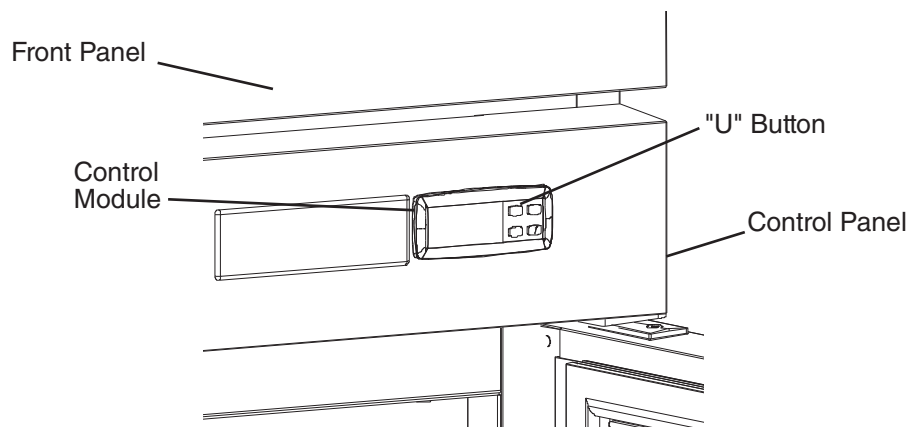

Fig. 35
- 2) Press and hold the "U" button on the control module until a dot appears in the display, then unplug the appliance from the electrical outlet. See Fig. 35.